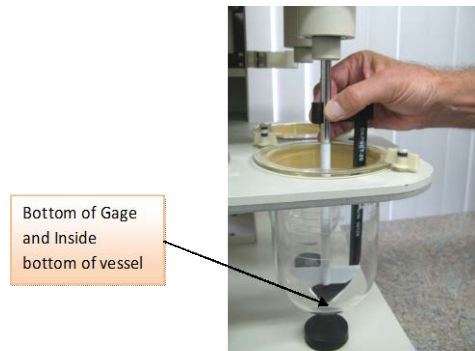

Figure 9
4.3.2 The paddle or basket assembly is lowered until the bottom of gage touches the inside bottom of the vessel as shown in Figure 9.